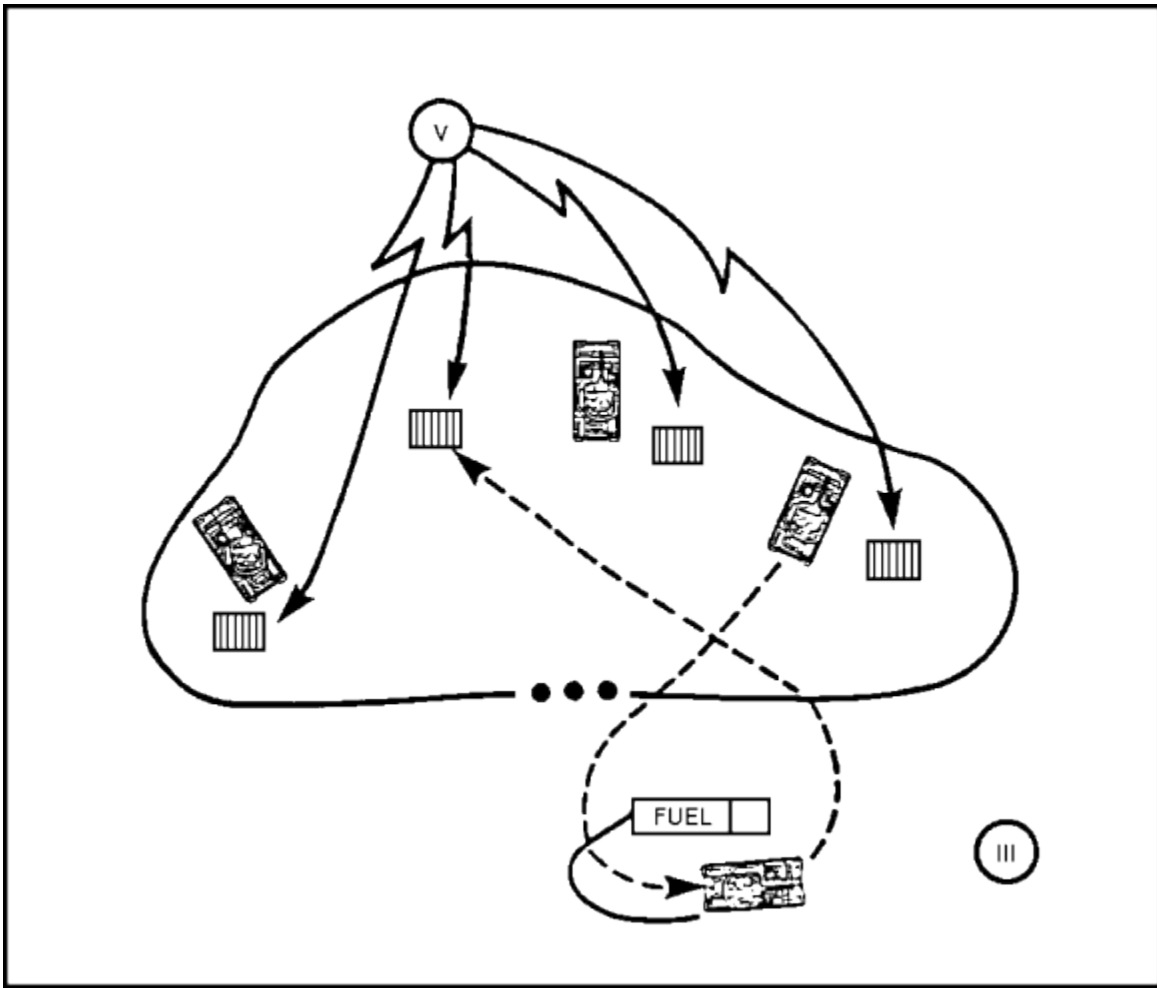

Figure 1-35. Prepositioning supplies (method 2)
- Method 2: Class V supplies are prepositioned at each vehicle position. Class III tankers are prepositioned in one location for the entire platoon (Figure 1-35). Class V supplies are placed on the ground in the vicinity of each vehicle position. When the platoon